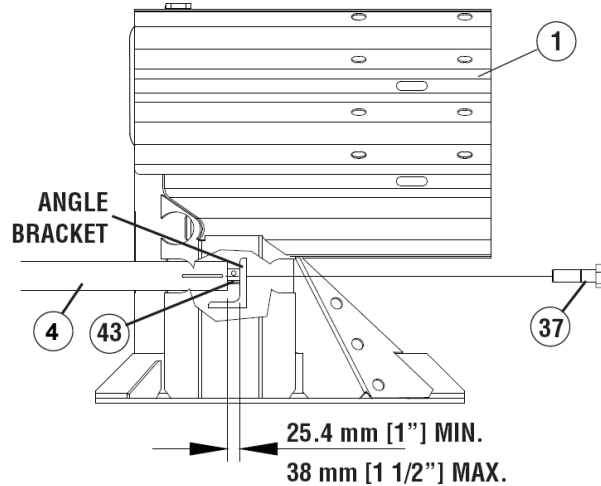

FIGURE 8
Ensure the Spacers (Item 43) are placed around the bolts (Item 37) inside the window in the Backup. Snug the bolts so the Shaper Rails don't move when the system is lifted. Once the system is placed, the bolts can be loosened 1/2" and the front of the system pulled out if more slack is desired (Figure 8).
- Tension Shaper Rail Bolts Tighten (Figure 8)